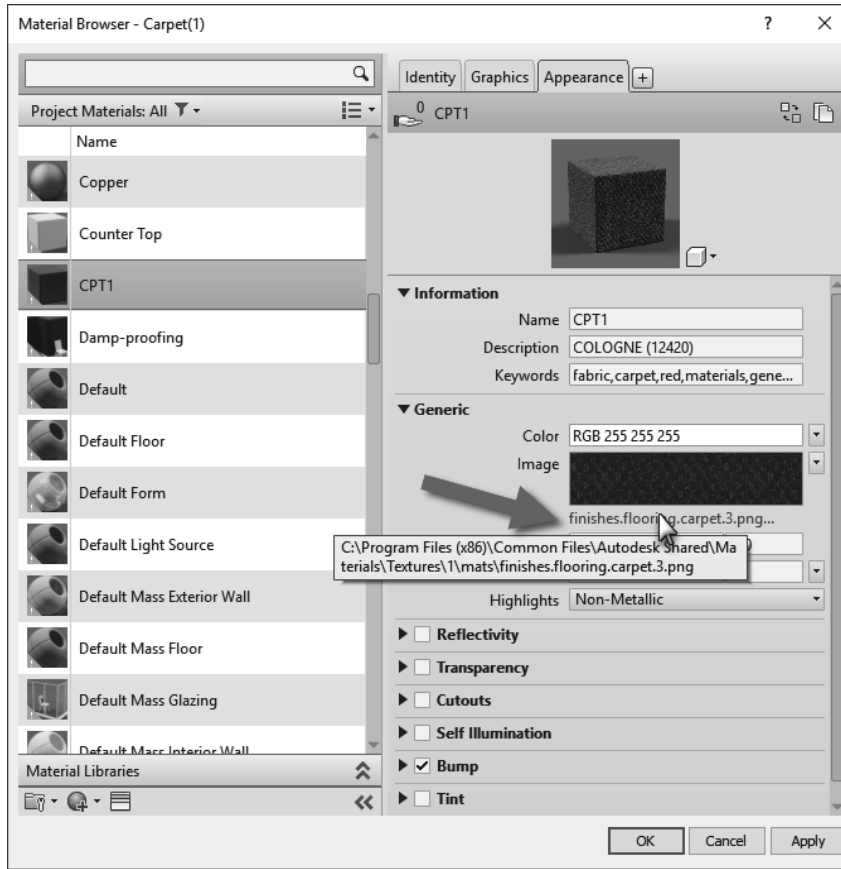

FIGURE 4-3.10 Keynotes selection dialog
20. In the *Generic* section, click on the file name link pointed out in Figure 4-3.10.